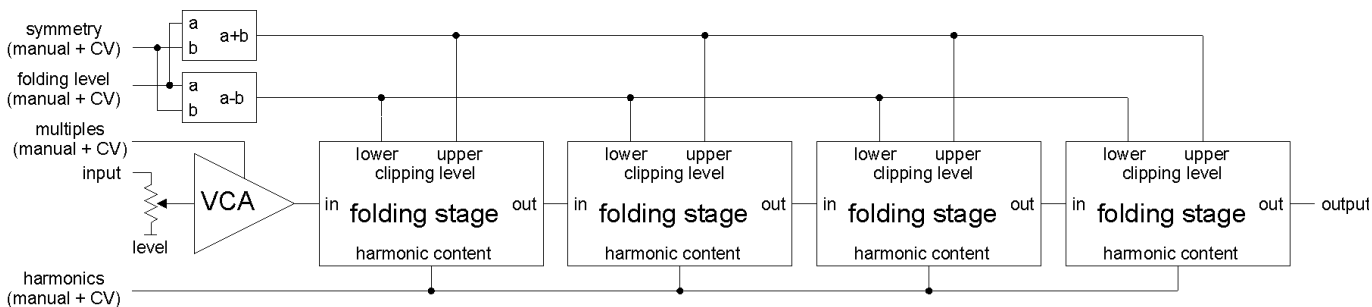

Fig. 3: Overall view
The signal is processed by a standard linear VCA and 4 so-called *wave folding stages*. The amplification of the VCA is identical with the *Multiples* parameter. This is the working principle of the folding stages: As soon as the signal goes beyond the *upper* resp. below the *lower folding level* the signal is *reflected* resp. *folded back*. The values for upper and lower folding level are derived from the input parameters *folding level and symmetry*. Both can be adjusted manually and controlled by an external control voltage (CV). *Folding Level* determines the distance between the upper and lower folding level, *Folding Symmetry* the position of both levels relating to the zero line. The internal upper and lower folding level are calculated by adding resp. subtracting the voltages for *Folding Level* and *Folding Symmetry* (refer to fig. 3).
Fig 3 shows the complete schematics of the A-137 module. For each of the four parameters *Multiples*, *Folding Level*, *Symmetry* and *Harmonics* a manual control and an external control voltage input with attenuator is available.